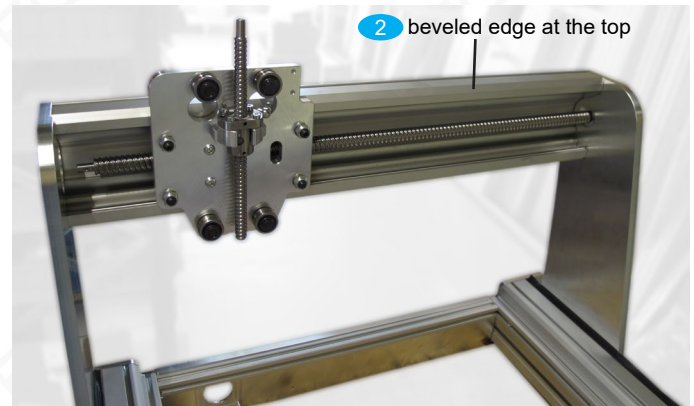

Fig. 19: Portal group consisting of guide profile and sled with roller guidance and spindles for X and Z
- Use flat-head screws **G3** to assemble the construction consisting of the guide profile and sled between the portal plates, as shown in Fig. 19. Insert the right end of the X spindle into the sleeve bearing. Do not tighten the screws.